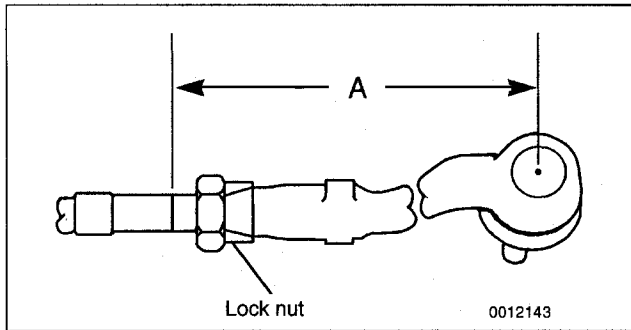

Fig. 8. Measuring tie rod end position (for reference only).
2. Make a reference measurement of outer tie rod end to tie rod. See Fig. 8. Record measurement.
2. Make a reference measurement of outer tie rod end to tie rod. See Fig. 8. Record measurement